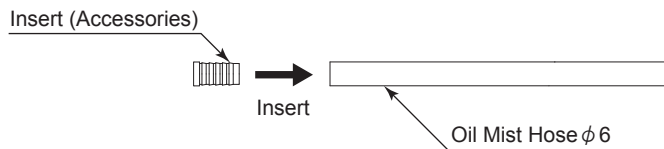

Fig. 15
(1) Press the insert (Accessories) into the Oil Mist Hose ($\phi 6$: not included / prepared by the end-user) (Fig. 15).